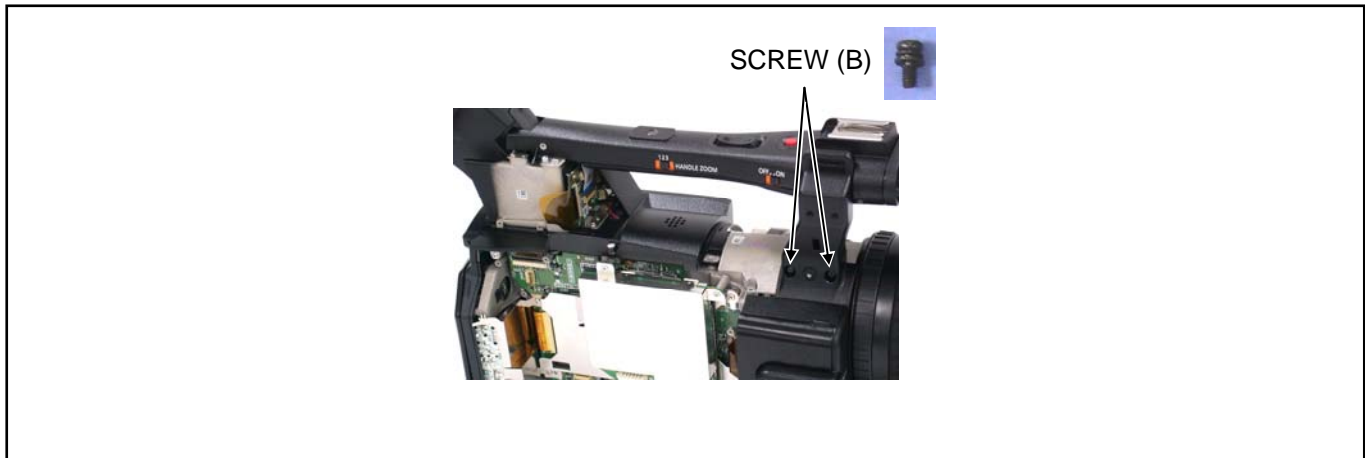

Figure 14-2
5. Unscrew the 2 screws (B) as shown in figure 14-2.